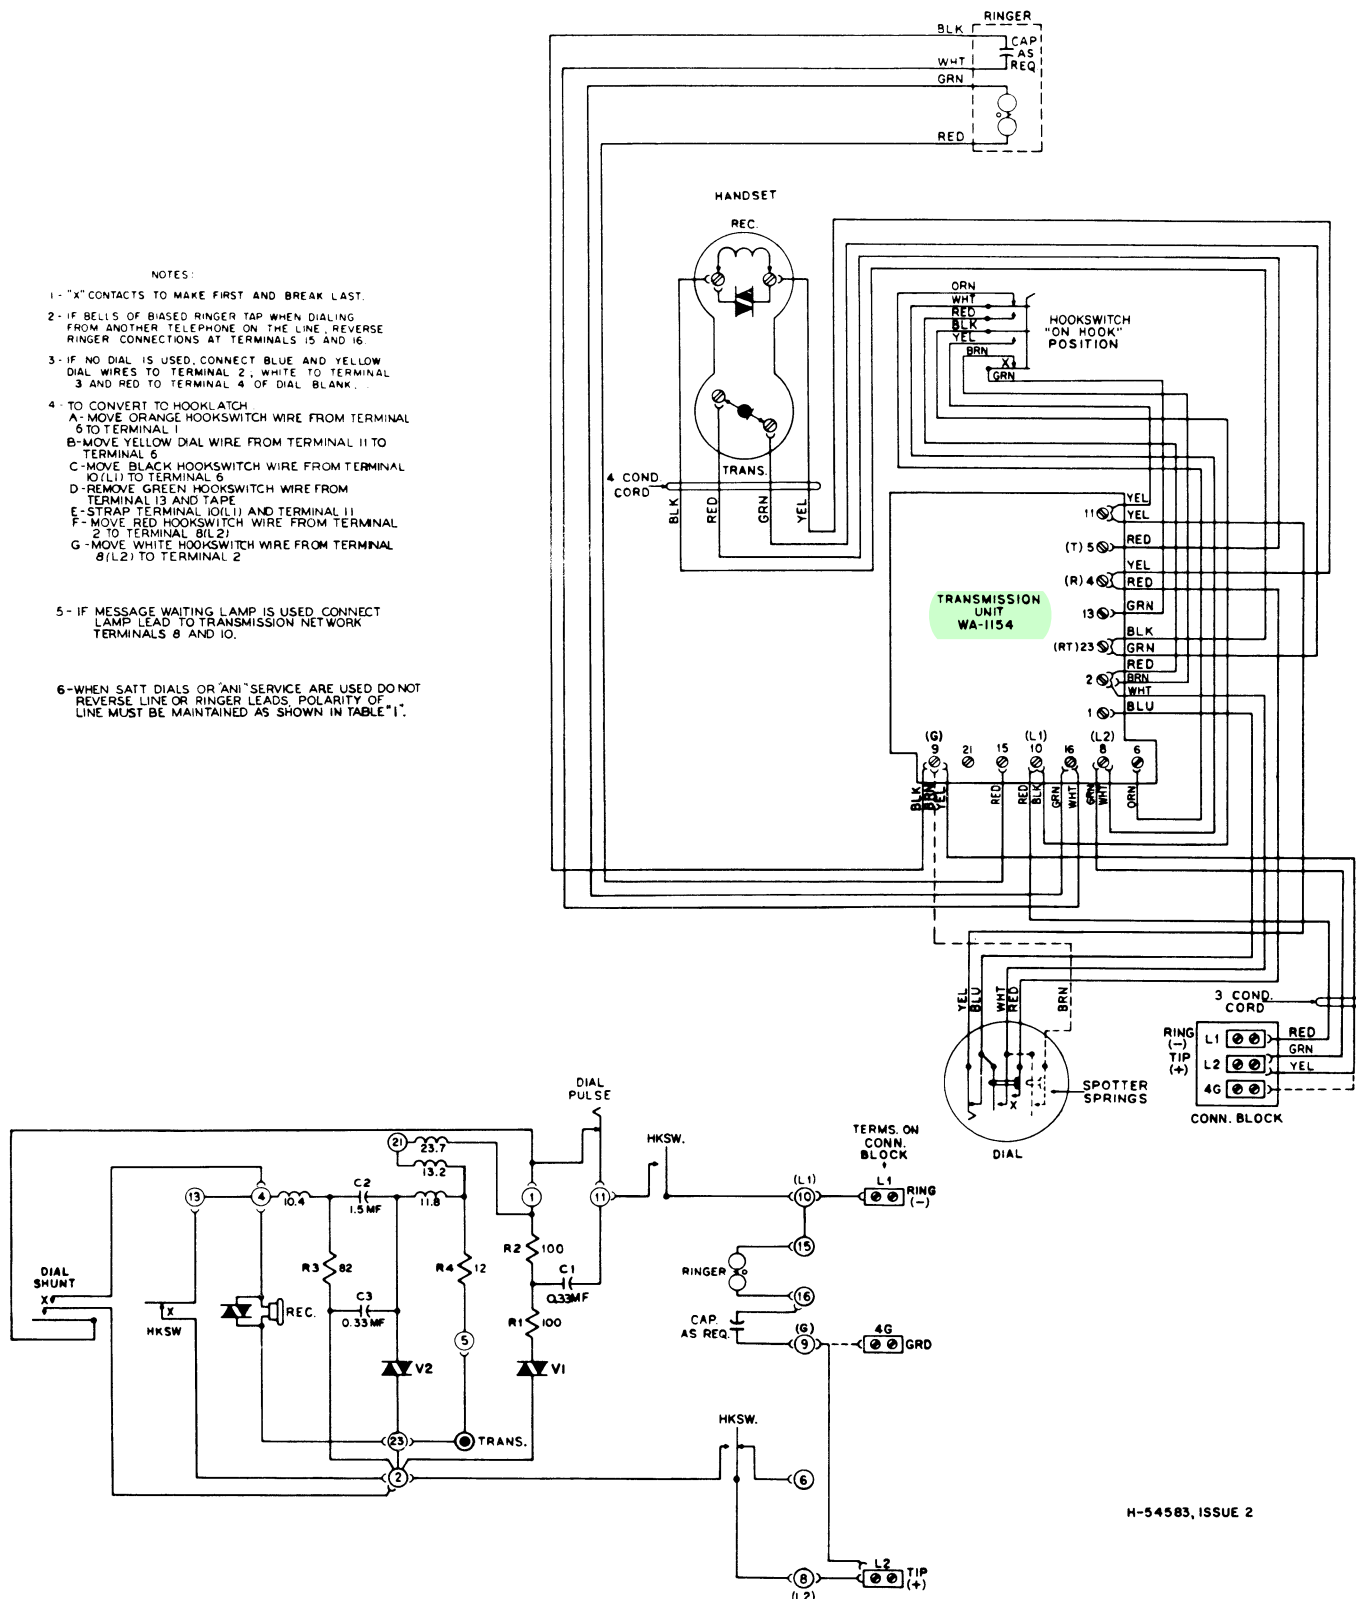

Figure 1. Schematic and Wiring Diagram, Type 80 Self-Compensating Telephone Set NC-802.
1.02 The NC series telephone set (NC-802) contains an improved printed wiring card transmission unit WA-1154-A. Use of the new transmission unit affects installation procedures because some of the terminal designations have been changed and some terminals have been relocated. The wiring diagrams provided in Figures 1 and 2 of this addendum show the new terminal numbers and locations. Tables 1 and 2 of this addendum provide connection information for the various ringing schemes.
Table 1. Lead Terminations for Standard Type 80 Telephone Set (NC Series, Figure 1 of Addendum).
Transmission Unit WA-1120 (See Addendum Figure 1 for NC Series Diagrams)."